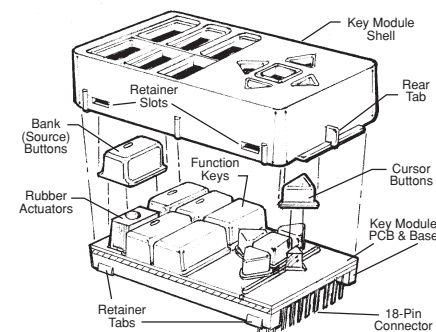

Fig. 11 Typical Key Module Assembly
2. Pick up the **Key Module PCB & Base** assembly and carefully push each **button** onto the **Rubber Actuators** in the locations you desire. Refer to **Fig. 11**.
3. When the buttons are completely in place, pick up the **Key Module Shell** and lower it over the **Key Module PCB & Base** assembly. (**Figs. 11 & 12**).
5. Carefully press the **Key Module Shell** down until the 4 small **Retainer Tabs** (**Fig. 11**) on the **Key Module PCB & Base** assembly snap into the corresponding **Retainer Slots** on the **Key Module Shell**.